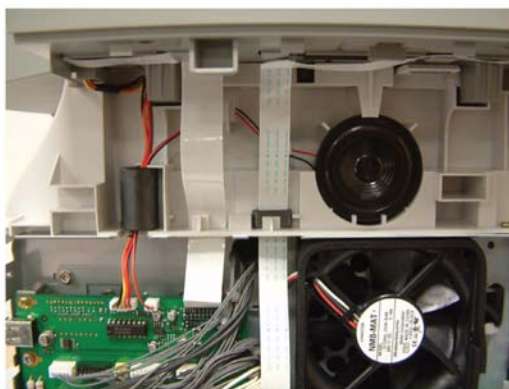

Figure 1
2. Remove the speaker connector from its ferrite tube and cable guide, Figure 1.